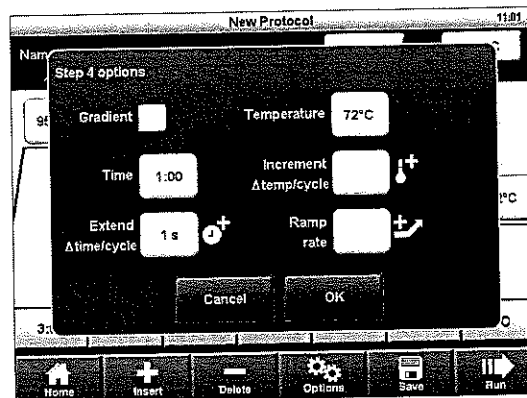

Fig. 5. Options window showing advanced parameters.
- To configure advanced parameters for a step, such as Temperature, Increment, Time, Extend, Gradient, and Ramp rate, select a step and touch **Options** (Figure 5). Program the required parameters as needed.